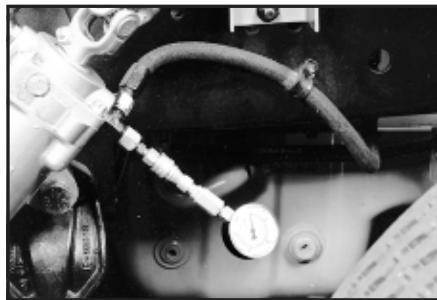

Figure 24.1
1. Install a low pressure gauge (200-300 psi (14-21 bar) maximum with approximately 10 psi (.70 bar) per division) in the pressure line from pump to gear. *Figure 24.1.*